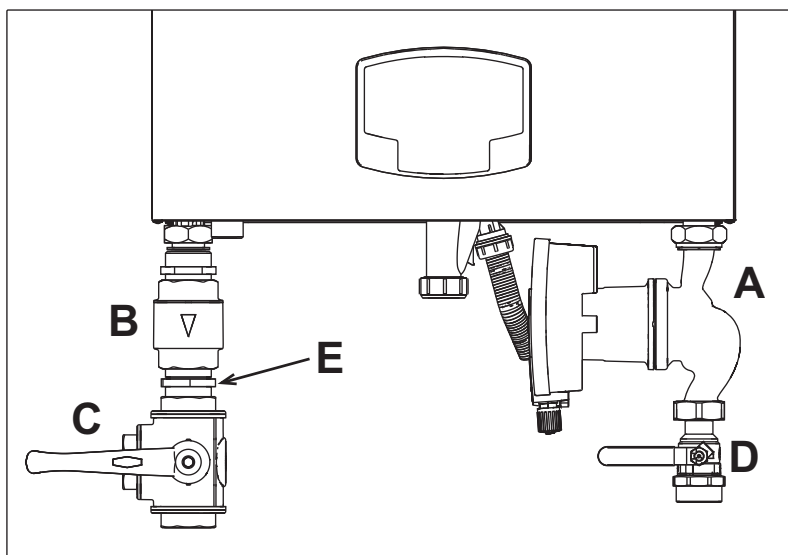

fig. 35- Boiler with installed kits
code 042070X0 - HIGH EFFICIENCY CIRCULATING PUMP KIT- 7m. (A - fig. 35)
code 042071X0 - HIGH EFFICIENCY CIRCULATING PUMP KIT- 10m. (A - fig. 35)
- 1 NON-RETURN VALVE - Female 1"1/2 (B - fig. 35)**
- 2 3-Way FAUCET - Female 1"1/2 (C - fig. 35)**
- 3 FAUCET Male/Female 1"1/2 (D - fig. 35)**
- 4 CONNECTION NIPPLE 1"1/2 (E - fig. 35)**